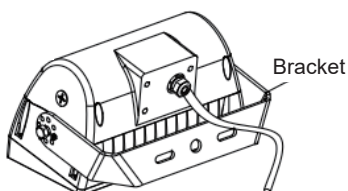

figure 3.1
Step 2 Finish the wiring connections according to the wiring diagram (L=Black, N=White, G=Ground) and then route the wires appropriately (figure 3.1).